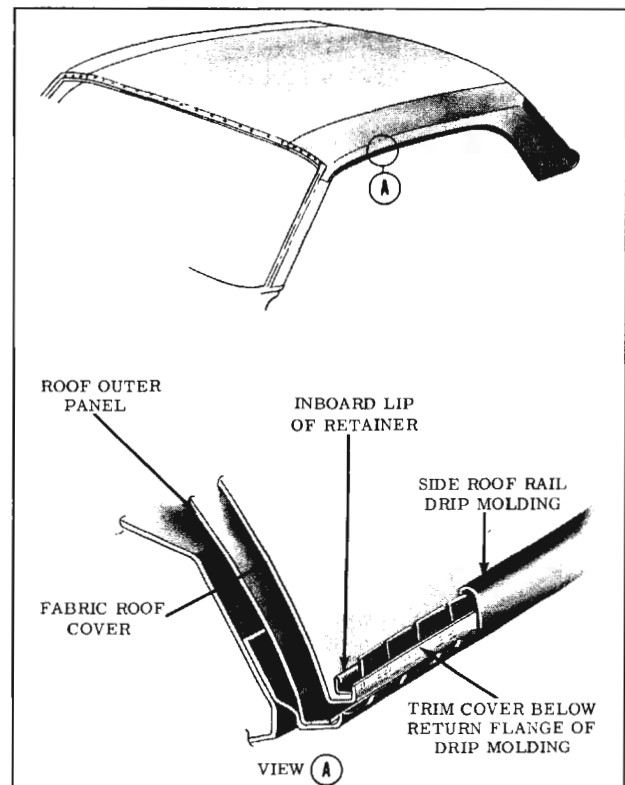
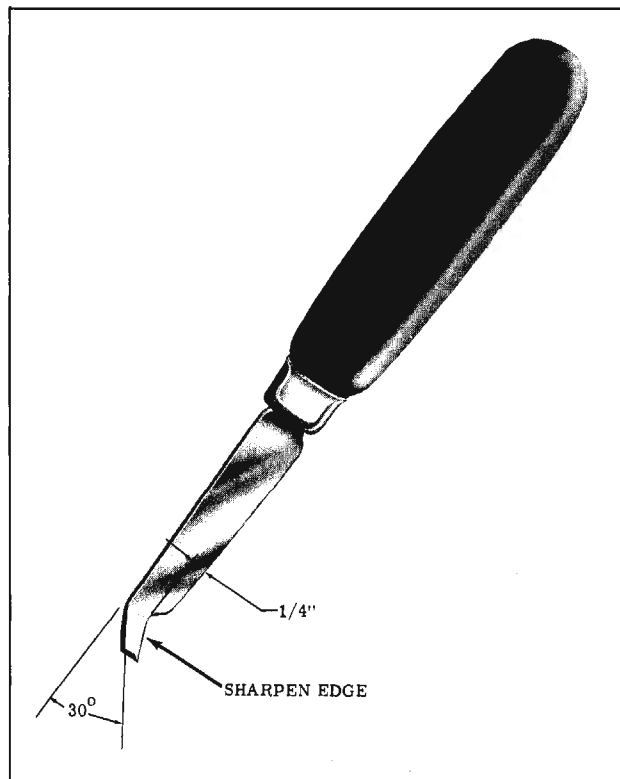

Fig. 16-329 Fabric Roof Cover at Side Rail
Fig. 16-333 Fabric Covering Trimming Knife
4. Removal of flexible retainer securing fabric cover inside right and left drip moldings can best be completed by inserting tip of a flat-bladed body spoon or similar tool under inboard lip of retainer. (View "A" in Fig. 16-329). Rotate lip of retainer upward, disengaging fingers of retainer from side roof rail drip molding flange. Continue above operation until retainer can be removed from body.
19. Using fabric cover trimming Tool J-21092, or suitable small knife, trim fabric cover just under lip of roof drip molding. (View "A", Fig. 16-329) A tool may be fabricated to trim material along side roof rail moldings as illustrated in Fig. 16-333.
21. Install flexible retainer starting at radius area above rear quarter window. Working toward rear of body, carefully drive retainer downward with a blunt-edged tool. Working toward front of body, install remaining portion of retainer. Retainer fingers should be seated in flange of drip molding. (View "A", Fig. 16-329)